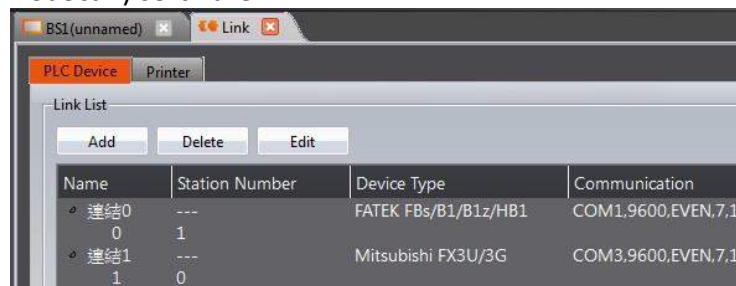

Figure 436 HMI Connection Page
Step 3: Set the **【 Address Mapping Table 】** in accordance to Figure 436.